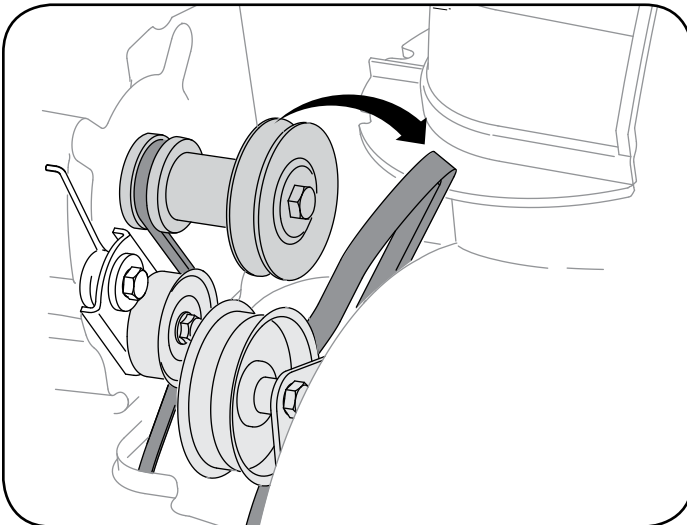

Figure 15
1. Roll auger belt off the pulley as shown in Figure 15.